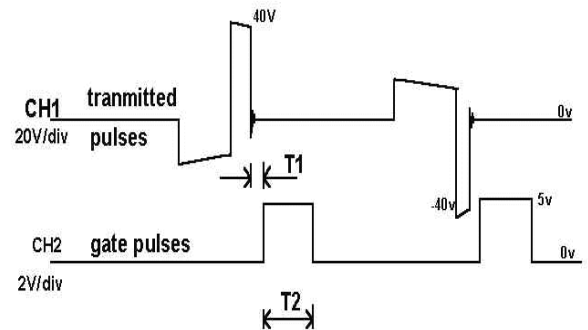

Figure 2. Oscilloscope viewing of Transmit and Gate pulses.
4. Set DIP switch DLY to get **T1** approx. 50 μS (ref Fig.2). With a smaller T1, the Metal Detector will be more sensitive, but prone to false alarms. Larger T1 will have reverse effect, that is the detector will be less sensitive but more stable.
5. Set DIP switch DUR to get **T2** (ref fig.2) approx. 100 μS . Larger T2 increases sensitivity of the Metal Detector, but it will be more prone to false alarms. Smaller T2 has the reversed effect.